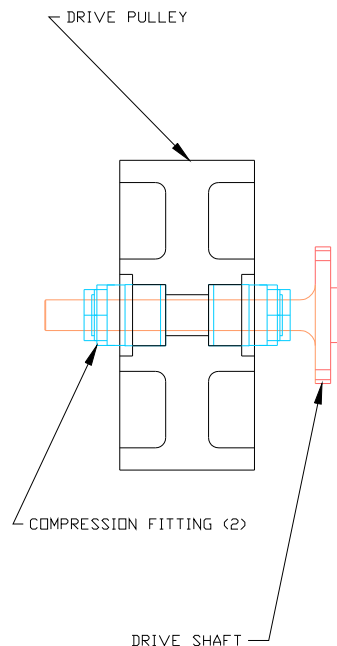

Figure 2 DRIVE PULLEY ASSEMBLY
The conveyor is a two-pulley system. One pulley provides the torque to move the conveyor belt. The other pulley provides proper belt tensioning. The drive pulley is located on the exit side of the machine and is connected to the drive motor by a drive shaft and compression fittings (see figure 2). The compression fittings make a rigid connection of the pulley and the shaft that provides accurate indexing operation. The shaft is mounted to the drive motor through eight (8) M6 bolts. A deep groove radial bearing supports the outboard side of the shaft. The idler pulley has deep groove radial bearings pressed in and rides in a yoke. The yoke is mounted on two shafts and has a 5/8-11 swivel pad bolt that provides proper belt tension. The belt is supported and guided with Ultra High Molecular Weight Polyethylene wear strips. The belt can be adjusted .100 inch (2.5mm) in the Y-axis by moving the three side guide assemblies. The belt is supported by two (2) with Ultra High Molecular Weight Polyethylene wear strips on the return. This provides total support for the conveyor belt during operation.